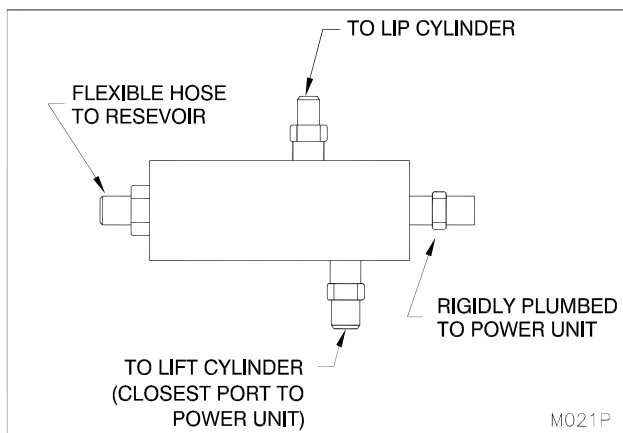

Figure 10: Pentalogic Hydraulic Manifold
3. ___ Connect two hydraulic lines to the Pentalogic hydraulic manifold on the power unit (one hydraulic hose from lip cylinder and one hydraulic hose from lift cylinder.) "Figure 10: Pentalogic Hydraulic Manifold" on page 11